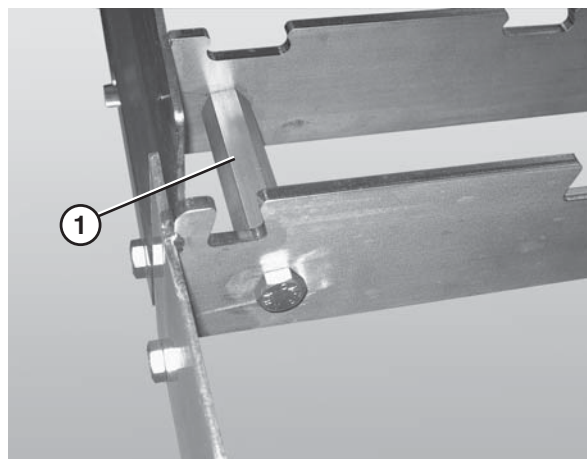

Figure 35
3. Connect the frame sections by bolting the hex post connectors (**Figure 35, item 1**) between frame sections. Be sure O-rings are seated properly on hex post and hex screws prior to tightening of screws to avoid damage to O-rings.